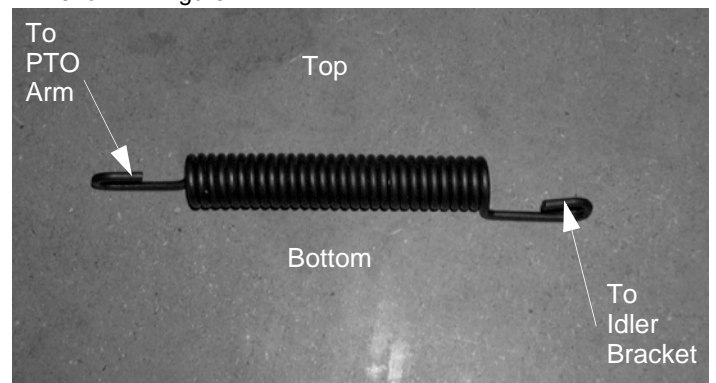

Figure 7
- Install the new **PTO spring** making sure it is oriented as shown in Figure 7.